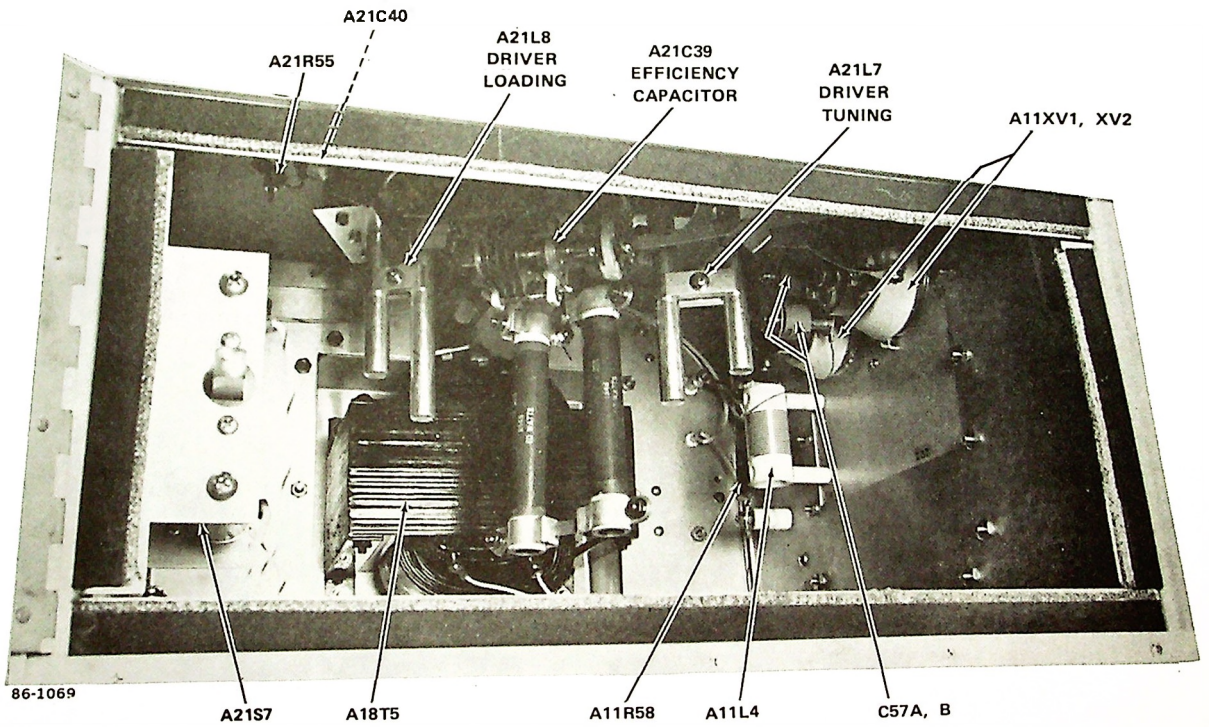

Figure 5-2. Power Amplifier Socket, A21
2. DRIVER LOADING AND TUNING SLIDER Adjust driver loading slider, A21L8, and driver tuning slider, A21L7, (see Figure 5-2) to the desired frequency in accordance with the graph in Figure 5-4.